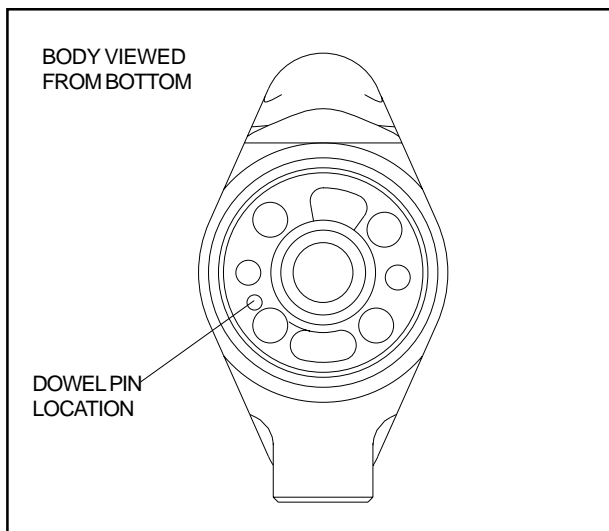

Figure 4.
7. Lubricate with clean hydraulic fluid and install the shuttle valve (34) into the tube.
8. Install the body (9) over the tube and shuttle valve onto the cylinder. Ensure the shuttle valve and roll pin are correctly aligned with holes in the body. See figure 4. Use a soft faced mallet to tap the body onto the cylinder.